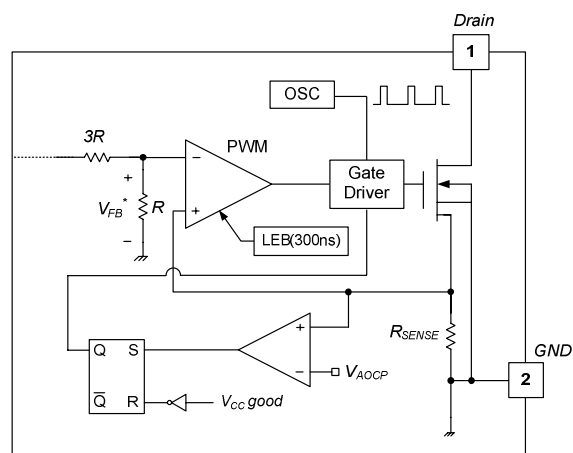

Figure 21. Abnormal Over-Current Protection
4.2 Abnormal Over-Current Protection (AOCP): When the secondary rectifier diodes or the transformer pins are shorted, a steep current with extremely high di/dt can flow through the SenseFET during the minimum turn-on time. Even though the FSGM0465RB has overload protection, it is not enough to protect the FSGM0465RB in that abnormal case; since severe current stress is imposed on the SenseFET until OLP is triggered. The FSGM0465RB internal AOCP circuit is shown in Figure 21. When the gate turn-on signal is applied to the power SenseFET, the AOCP block is enabled and monitors the current through the sensing resistor. The voltage across the resistor is compared with a preset AOCP level. If the sensing resistor voltage is greater than the AOCP level, the set signal is applied to the S-R latch, resulting in the shutdown of the SMPS.